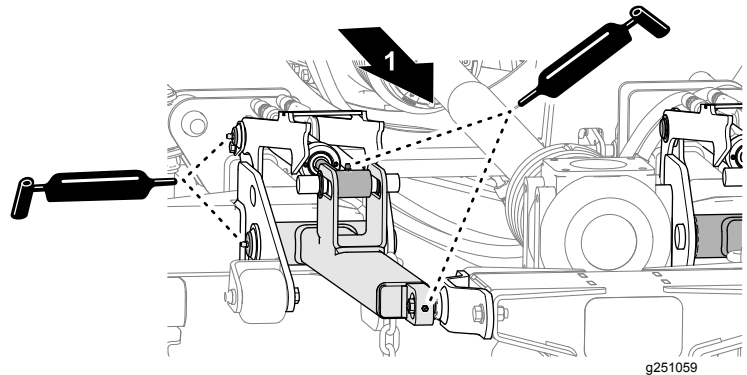

Figure 53
- Apply grease the lift arms and hydraulic cylinders, and impact struts of the center mower deck (Figure 53).
Apply the specified grease to the grease fitting at the 3 spindles at each mower deck (Figure 53).